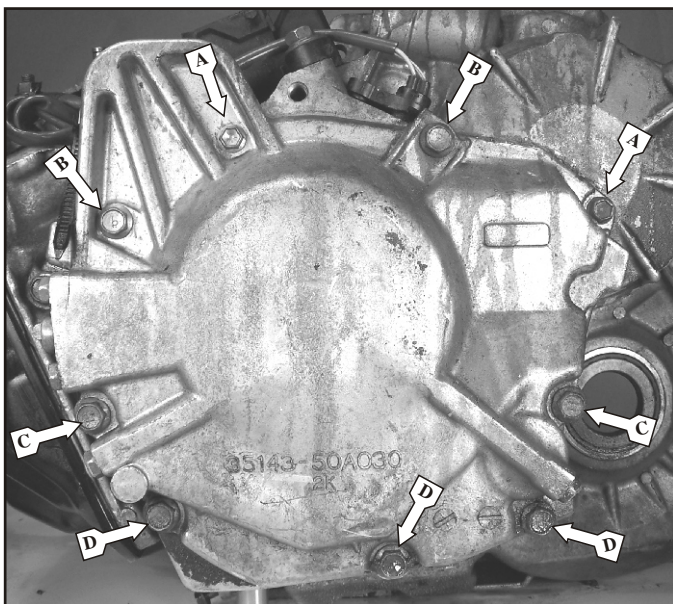

Figure 70
19. Remove the two 10mm headed bolts that are identified with an "A", shown in Figure 70.
20. Remove the remaining seven 12 mm headed bolts as shown in Figure 70. **Note: the bolt lengths are as follows: B= 25mm, C= 48mm and D= 45mm.** Using a hammer gently tap the rear cover off of the case.